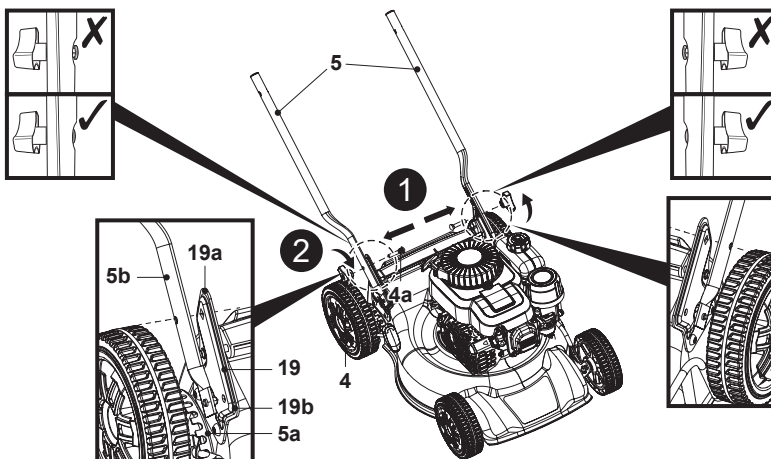

Fig. 1
3. Align and engage the spigot (5a) of one lower handle bar (5) in the location hole (19b) of the handle bracket (19). Keep the handle assembly in position.
4. Align and pass one mounting bolt (M8 x 35) (4a) through the mounting holes (19a, 5b) of the handle bracket (19) and the lower handle bar (5) until the stop, then attach the lock knob (4) (Fig. 1, step 1).
5. Secure the handle assembly by screwing in the lock knob (4) clockwise on the thread of the mounting bolt (M8 x 35) (4a) (Fig. 1, step 2).
6. Repeat the above steps on the other lower handle bar (5).
7. Make sure that the brake wire (22) run on the upper side of the lower handle bar (5).